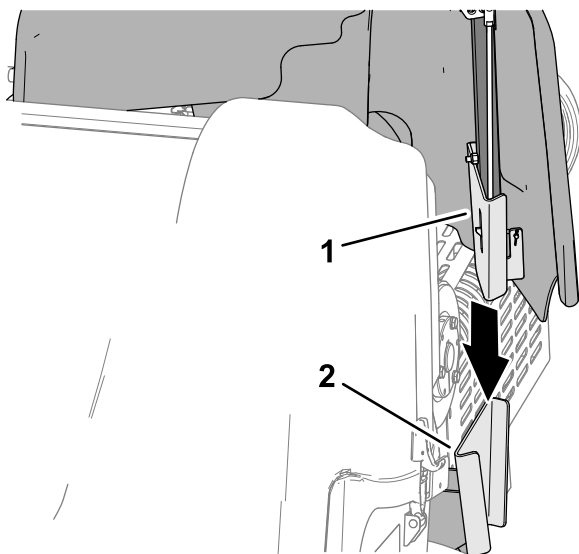

Figure 144
- Align the mount bracket of the belt cover with the cover-support bracket of the machine frame (Figure 144).